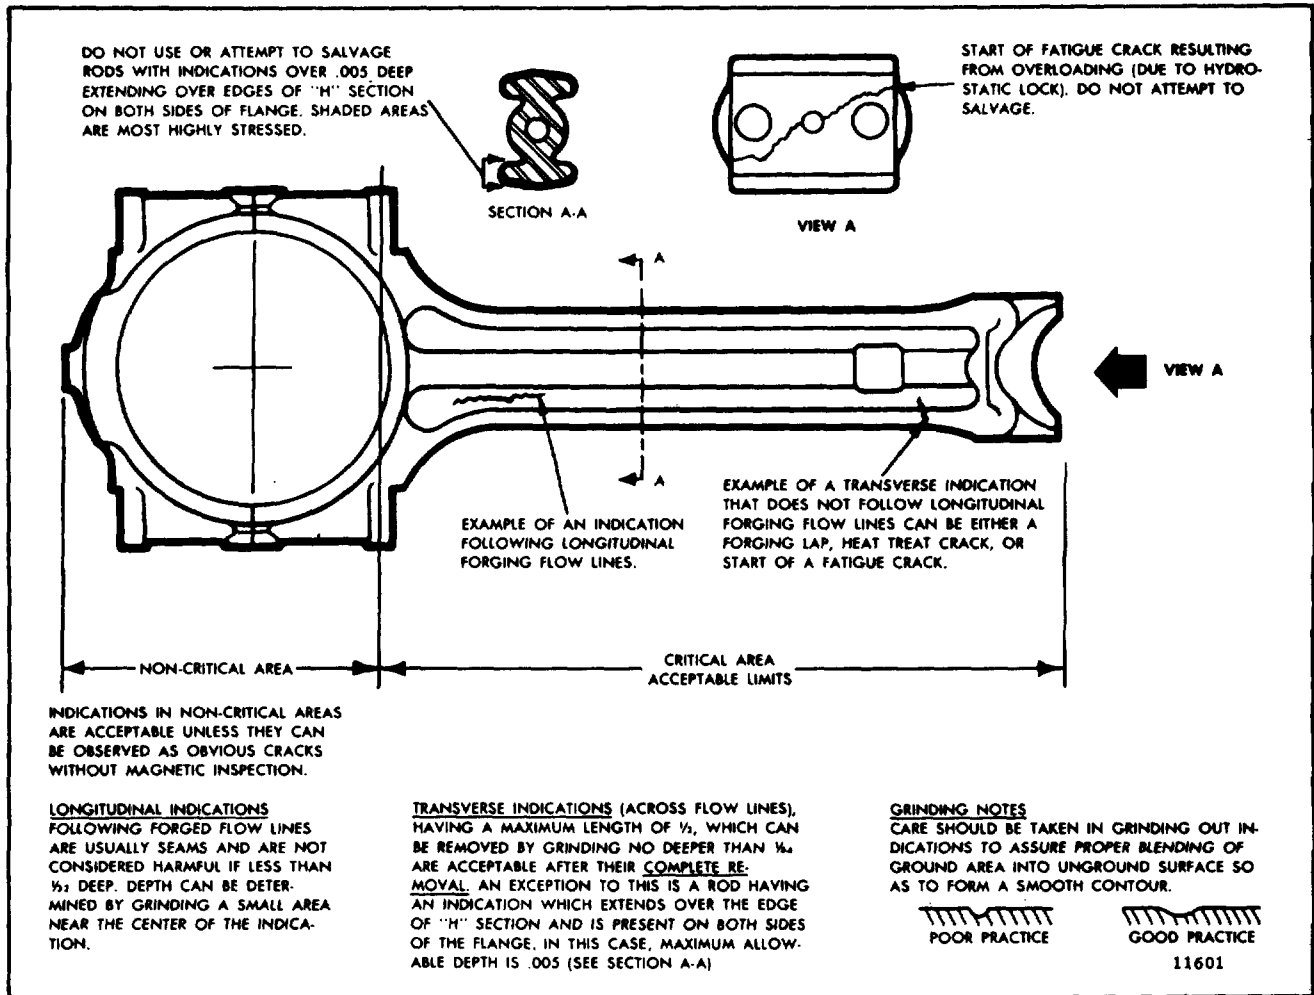

Fig. 2. Magnetic Particle Inspection Limits for Connecting Rod.
1. Check for cracks (Fig. 2) by the magnetic particle method outlined on Page 10-2.49 under *Crankshaft Inspection*.